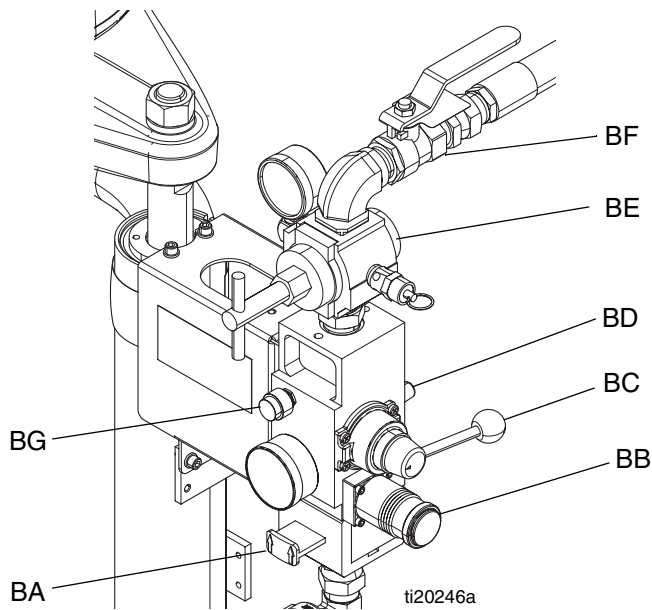

FIG. 2. Integrated Air Controls
| G | Integrated Air Controls (see FIG. 2 on page 6) | | |
2. See FIG. 2, page 6.
- a. Close the air motor ball valve (BF) and the main air slider valve (BA).
- b. *If the RAM is in a raised position*, set the ram director valve (BC) to DOWN. The ram will slowly drop.
2. Refer to FIG. 1 and FIG. 2. Close all air regulators and air valves.
3. Open main air slider valve (BA) and set ram air regulator (BB) to 45 psi (0.31 MPa, 3.1 bar). Set director valve handle (BC) to UP and let the ram rise to its full height.